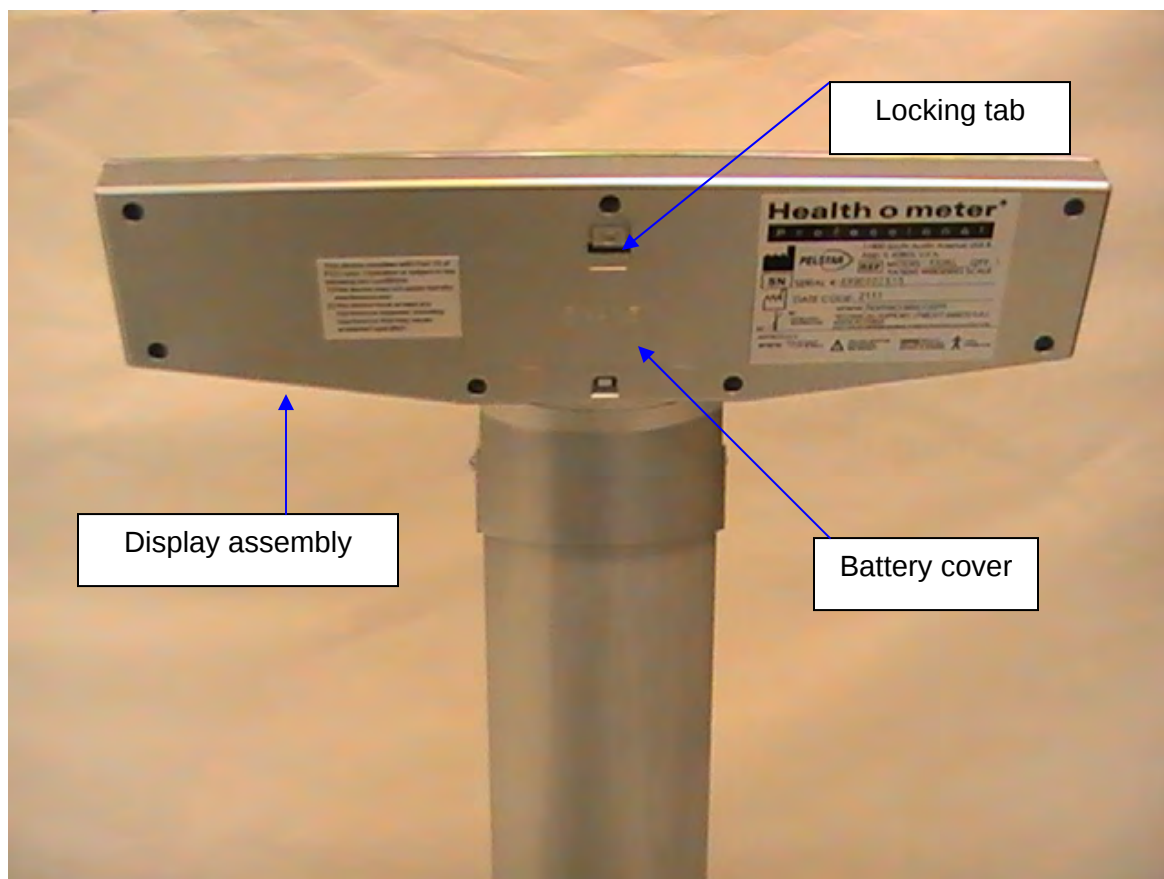

Figure 12
3. With a Phillips head screwdriver remove the screw from the battery compartment cover and remove the battery cover on the back of the display assembly by pressing the locking tab (see Figure 12).